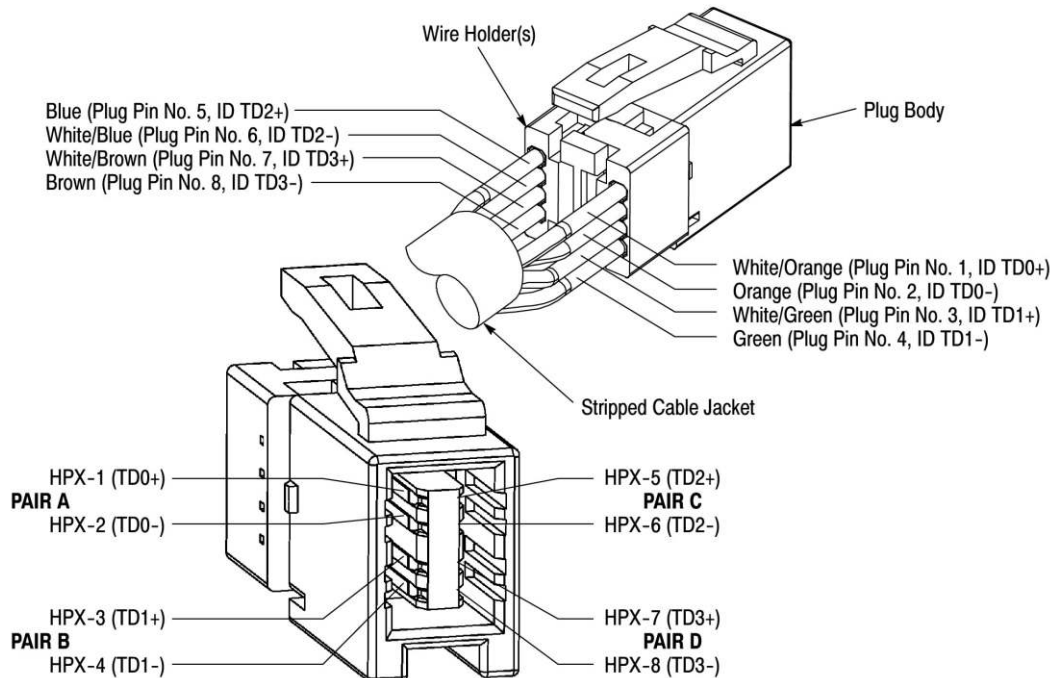

Figure 3
2. Insert the discrete wires into the wire holders according to the wiring diagram provided in Figure 3 until bottomed. After wire insertion, the holders shall be sandwiched on the plug body prior to crimping. See Figure 3.
| See Figure 3 | 5.80 ±0.10 [.228 ±.004] | 4.75 ±0.13 [.187±.005] |